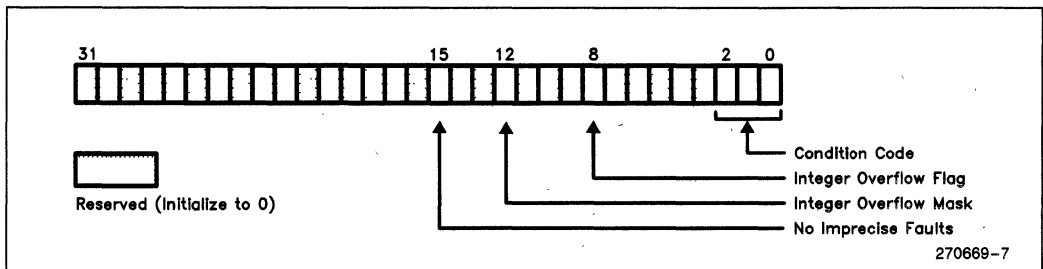

Figure 3-4. Arithmetic Control Register
The *Arithmetic Control (AC) Register* is a 32-bit on-chip register (Figure 3-4). The AC register is used primarily to monitor and control the execution of 80960CA arithmetic instructions. The processor reads and modifies bits in the AC register when performing many arithmetic operations. The AC register is also used to control the faulting conditions for some instructions. The *modac* instruction allows the user to directly read or modify the AC register.